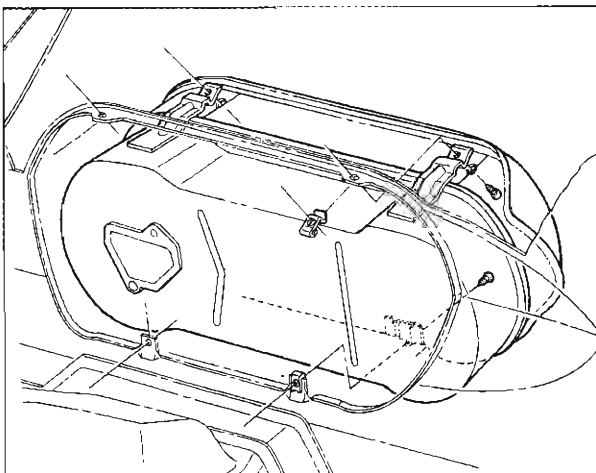

Fig. 39—Instrument Cluster Installation
- Remove four screws attaching cluster to dash panel (fig. 39). Cluster may now be pulled clear of dash.